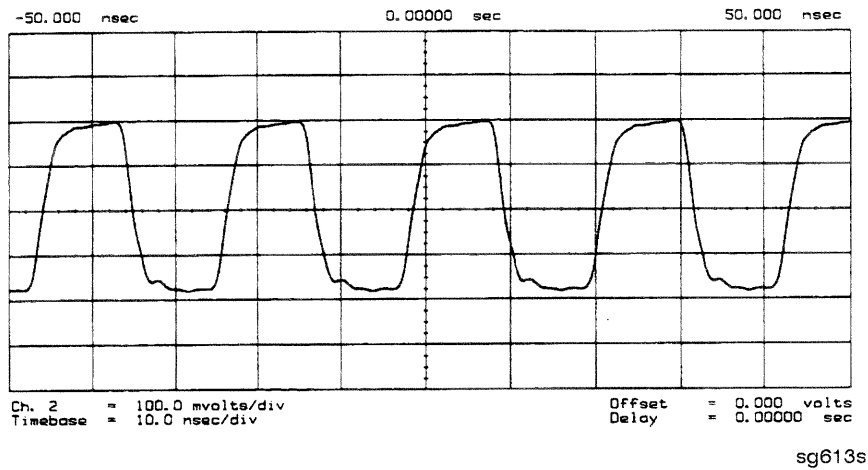

Figure 7-20. LO OUT Waveform at A14J2
- b. Connecting an oscilloscope to A14J2 (labeled LO OUT) and looking for waveforms similar to Figure 7-20.